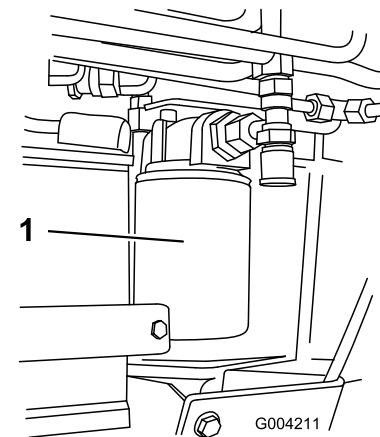

Figure 64
4. Place a drain pan under the filter (Figure 64).
5. Remove the old filter (Figure 64) and wipe the surface of the filter adapter gasket clean.
7. Install the replacement hydraulic filter onto the filter adapter (Figure 64). Tighten it clockwise until the rubber gasket contacts the filter adapter, then tighten the filter an additional 3/4 turn.